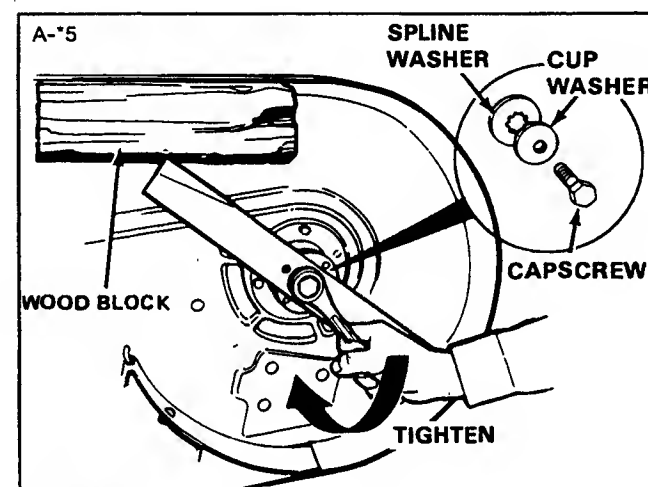

Figure 21. Installing Blade
7. Reinstall each blade with the tabs pointing up toward deck and secure with a capscrew, cup washer, and spline washer. Be sure the splines on the spline washer are aligned with the shaft and the washer is flush against blade. Be sure cup washer is installed concave side up. Use a wooden block to prevent blade rotation and torque capscrew to 50 to 70 ft. lbs. (68 to 76 N.m) (figure 21).